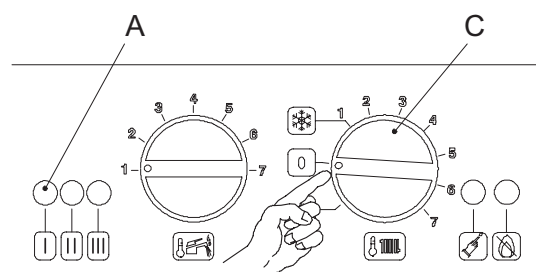

Figure 6.2
- This indicates that the safety lock-out 1 (Fig. 6.2) has stopped the boiler
- To re-start the boiler, it is necessary to turn the function selector C in the position  and then press the boiler reset button 2 (Fig. 6.2).